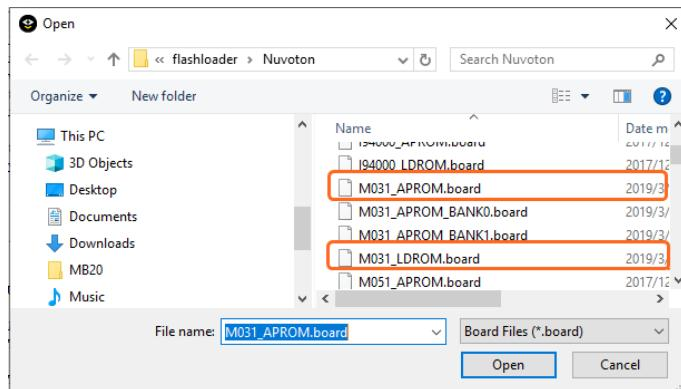

Figure 5.2-30 Select.board File for IAR EWARM
- (6) In the **Download** tab of the **Debugger** page, select the **Override default .board file** option if you want the firmware to be downloaded to APROM or LDROM, and then specify the *M031_APROM.board* or *M031_LDROM.board* file (M031 series is used in this case). If no file is founded, specify the following path "\$TOOLKIT_DIR\$\\config\\flashloader\\Nuvoton", as shown in Figure 5.2-30.